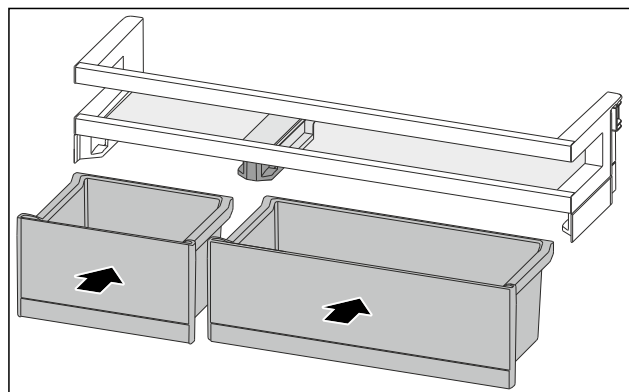

Fig. 169
- ▶ Insert the VarioBoxes in reverse order. (see Fig. 169)